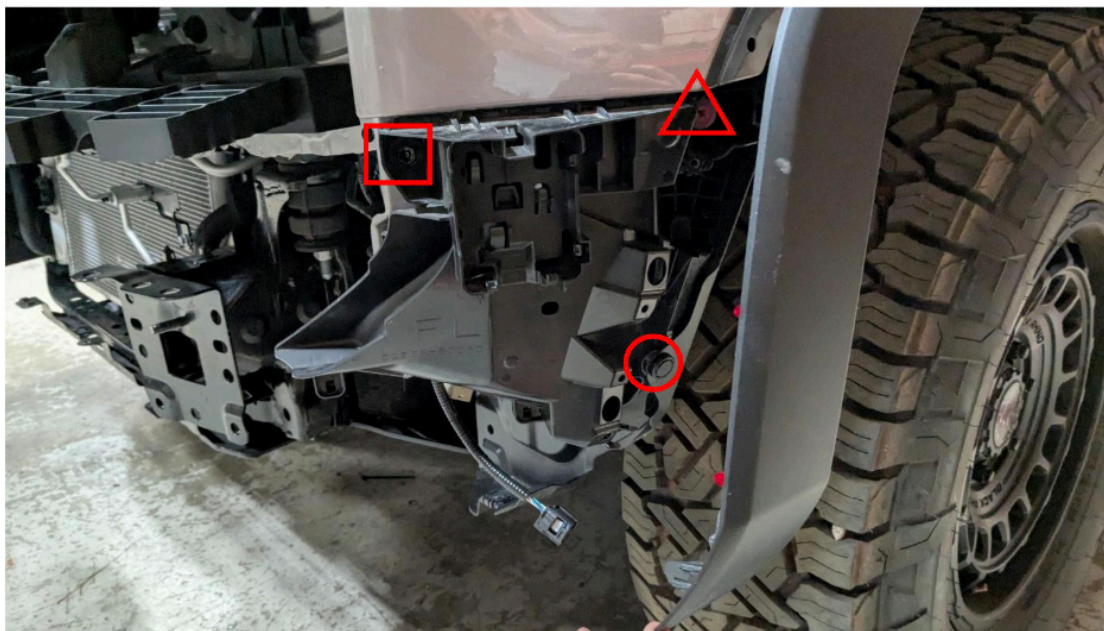

Figure 36.
28. Using a 10mm socket, Phillips head screwdriver and panel pry tool, Remove the screw and push pins attaching the air duct structures to the vehicle. Figure 36.